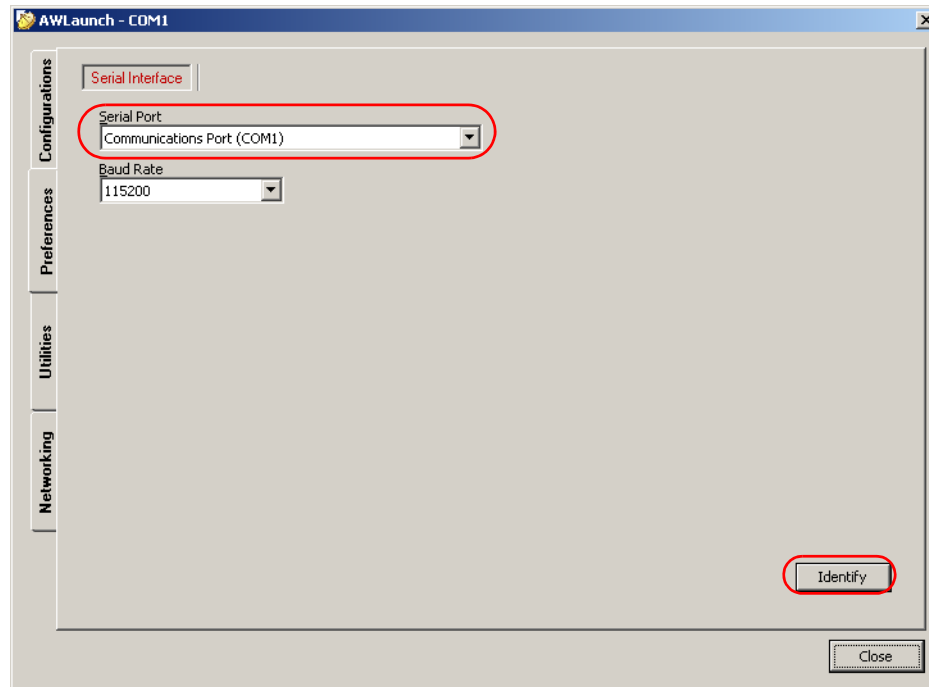

Figure 2-5. Connect to AWLaunch
4. Open the *Preferences* tab and select the COM port the modem is connected to (Figure 2-5), and click *Identify*.